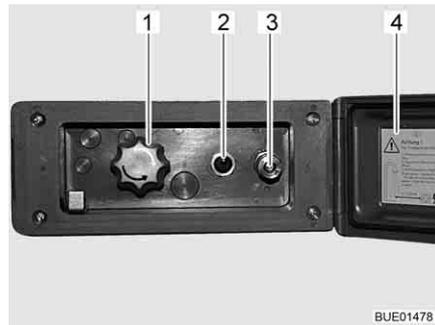

Fig. 145 External shower connection point
- Unlock and open the cover (Fig. 145,4).
- Attach hose of the external shower to the quick closure (Fig. 145,3).
- Switch on the water pump using the switch (Fig. 145,2).
- Adjust the water temperature with the rotary knob (Fig. 145,1) as desired.
- Switch off the water pump using the switch (Fig. 145,2).
- Close the cover (Fig. 145,4) and lock with key.
- Turn knob (Fig. 145,1) to the centre position.